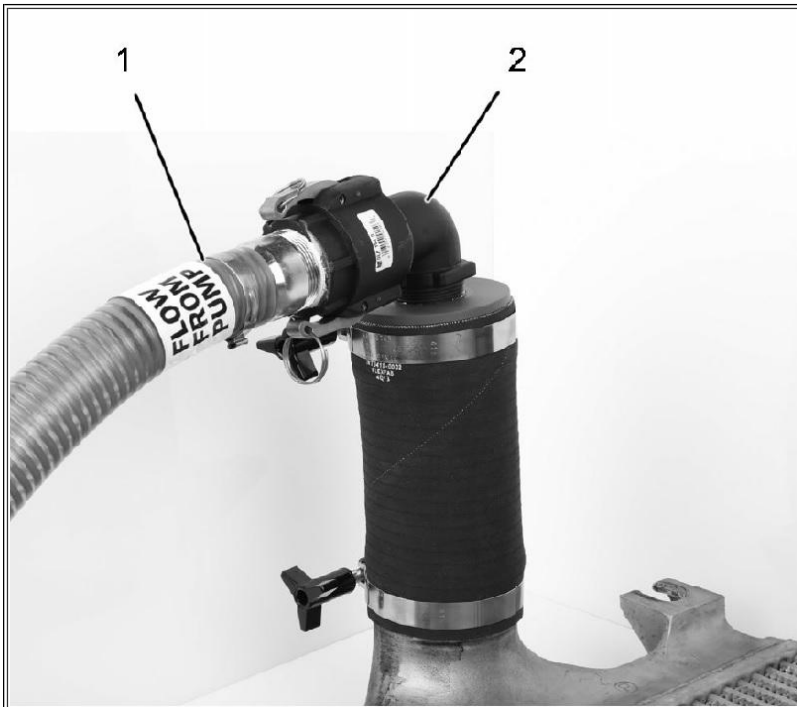
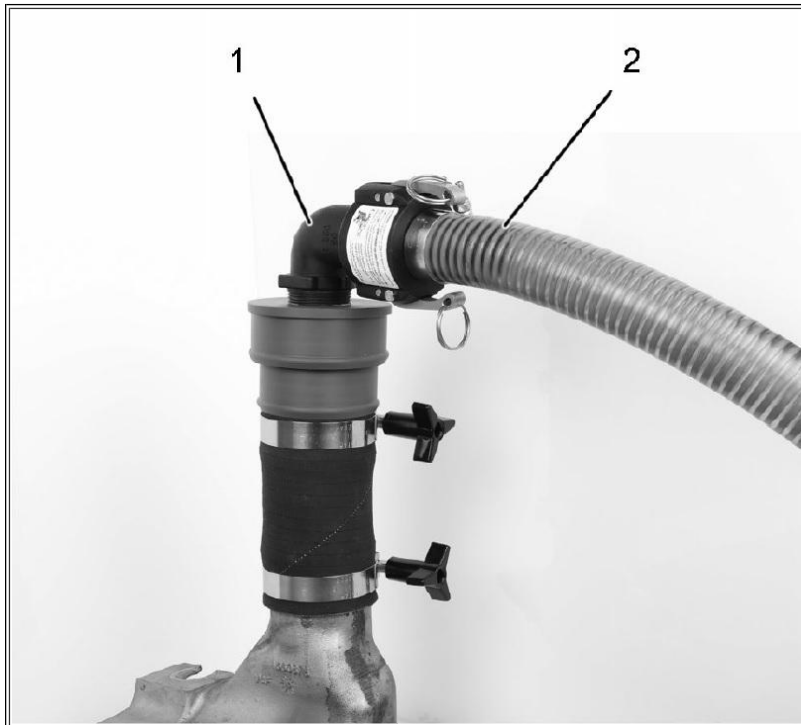

Figure 4: Outlet Adapter
Figure 5: Inlet Adapter
8. Connect CMS FLOW FROM PUMP hose (**Figure 4**, Item 1) to outlet adapter (**Figure 4**, Item 2).
10. Connect CMS FLOW RETURN hose (**Figure 5**, Item 2) to inlet adapter (**Figure 5**, Item 1).
3. Disconnect CMS FLOW RETURN hose (**Figure 5**, Item 2) from inlet adapter (**Figure 5**, Item 1).
4. Disconnect CMS FLOW FROM PUMP hose (**Figure 4**, Item 1) from outlet adapter (**Figure 4**, Item 2).
5. Connect CMS FLOW RETURN hose (**Figure 5**, Item 2) to outlet adapter (**Figure 4**, Item 2).
6. Connect CMS FLOW FROM PUMP hose (**Figure 4**, Item 1) to inlet adapter(**Figure 5**, Item 1).
2. Connect CMS FLOW FROM PUMP hose (**Figure 4**, Item 1) to outlet adapter (**Figure 4**, Item 2).
3. Connect CMS FLOW RETURN hose (**Figure 5**, Item 2) to inlet adapter (**Figure 5**, Item 1).
6. Disconnect CMS FLOW FROM PUMP hose (**Figure 4**, Item 1) from outlet adapter (**Figure 4**, Item 2).
7. Disconnect CMS FLOW RETURN hose (**Figure 5**, Item 2) from inlet adapter (**Figure 5**, Item 1).
11. Connect CMS FLOW RETURN hose (**Figure 5**, Item 2) to outlet adapter (**Figure 4**, Item 2).
12. Connect CMS FLOW FROM PUMP hose (**Figure 4**, Item 1) to inlet adapter(**Figure 5**, Item 1).